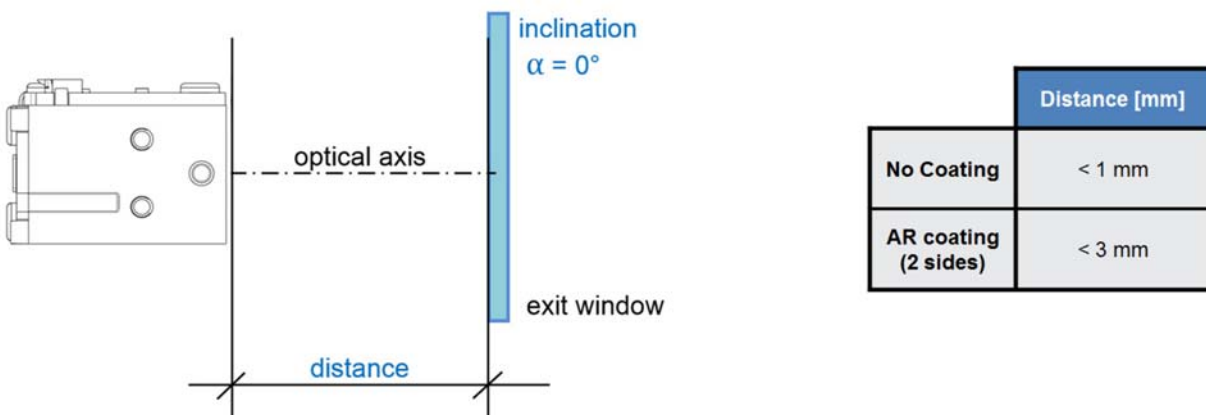
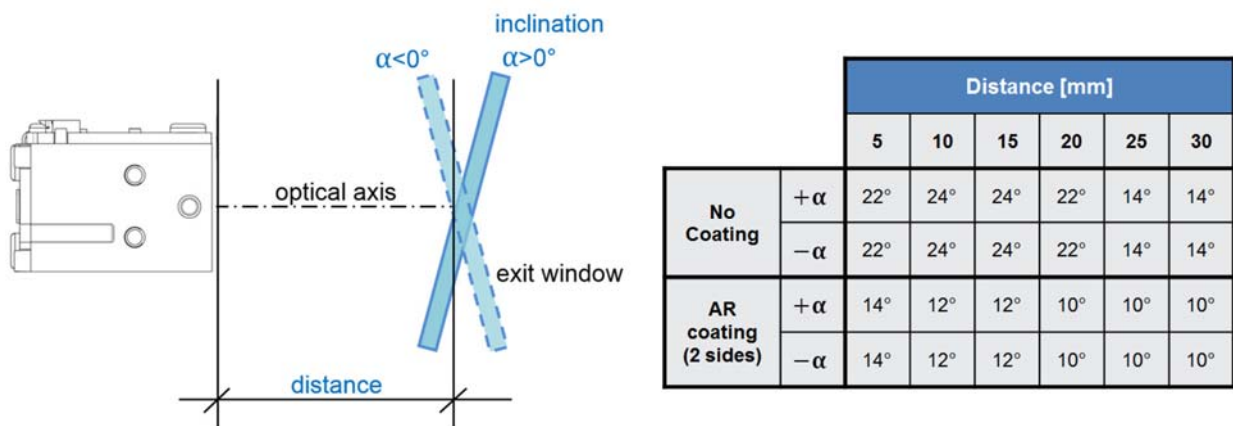

Figure 6. Exit Window Positioning – Perpendicular Window
Figure 7. Exit Window Positioning – Tilted Window
- Do not place the exit window between the maximum distance allowed for a parallel window (Figure 6) and the minimum distance for a tilted window (Figure 7).